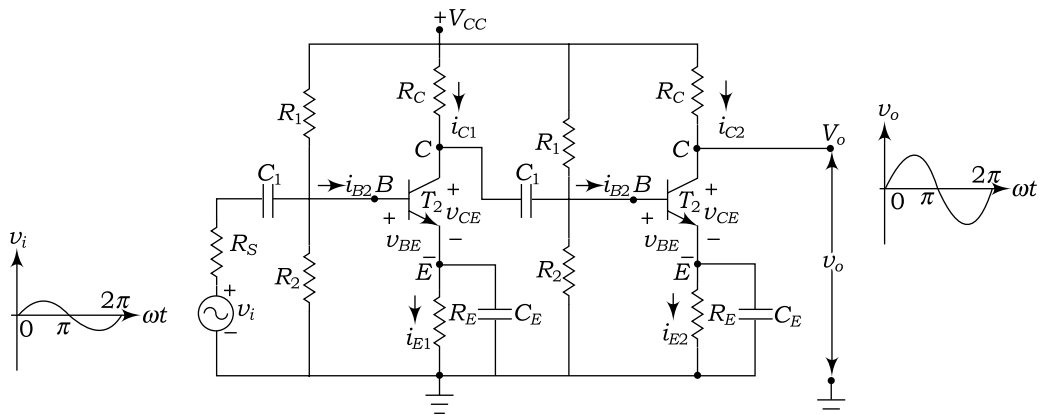

Fig. 3.85 Resistance capacitance coupled amplifier
3.14 ANALYSIS OF RESISTANCE CAPACITANCE (RC) COUPLED AMPLIFIER
Figure 3.85 shows a two-stage RC coupled amplifier. This circuit consists of two single-stage common-emitter (CE) transistor amplifiers. The transistors T_1 and T_2 are identical and a common power supply is used. Resistances R_1 , R_2 , and R_E are used to provide proper bias. The capacitor C_1 is used to feed the ac input voltage signal to the base of the transistor T_1 . The capacitor C_2 is used to couple the ac output voltage signal from transistor T_2 to load R_L . The capacitor C_E is connected across R_E of T_1 and T_2 to bypass the emitter to ground. The voltage gain of each stage will be lost without the above capacitors. The bypass capacitor is also used to prevent loss of amplification due to negative feedback.